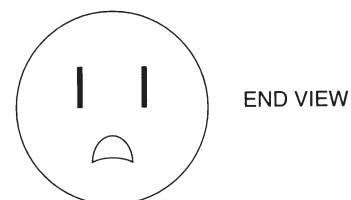

FIGURE 1-17 A 120 V power plug.
6. If the voltage rating of the unit is 120 volts (V), the power plug should be shaped like a large, standard home appliance plug such as the one shown in Figure 1-17. Is that the case?